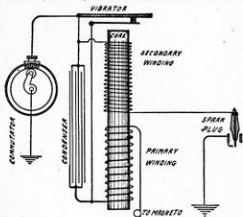

Figure 17.—Induction Coil in the Ignition System.
**Vibrator.**—The construction of a transformer coil is shown in Figure 17. It will be recalled that current is induced in the secondary winding only upon a change of the magnetism of the core. It is for the purpose of producing the change of magnetism that the vibrator is employed, and the change in this case means that the core is first strongly magnetized by an
unrestricted flow of magneto current around the primary winding and this magnetism is then destroyed by a temporary stoppage of the current flow. By referring to Figure 17 it will be noted that the vibrator hammer is directly above the end of the core. It will be readily realized that whenever the core becomes a magnet it will attract the hammer and whenever this magnetism is destroyed then the hammer will be drawn